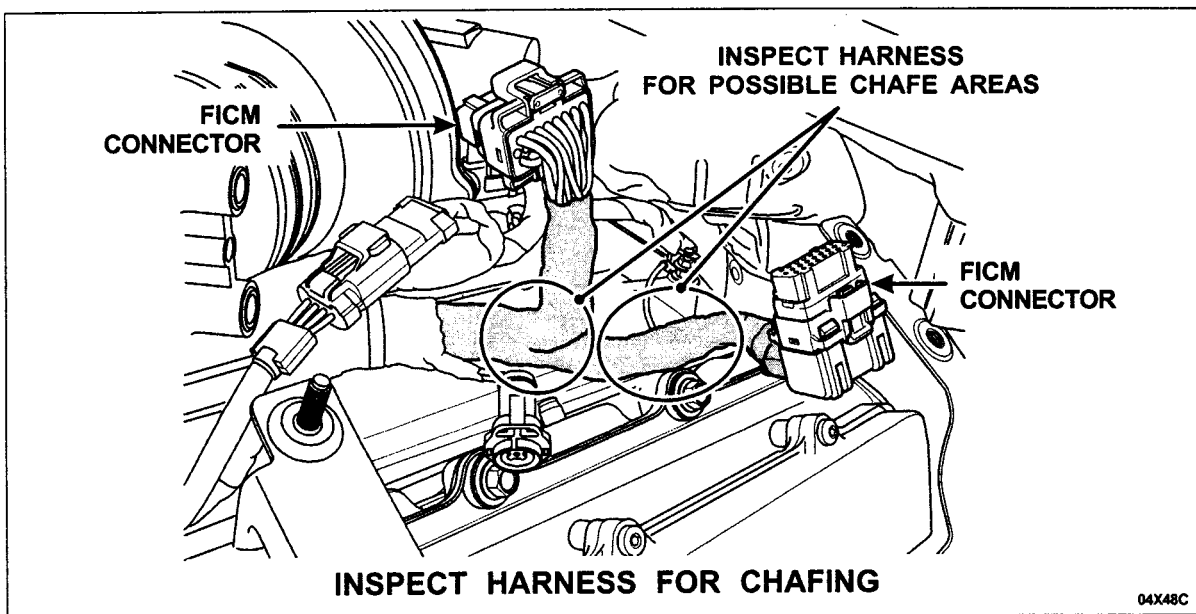

FIGURE 4
8. Disconnect the two (2) rear fuel injector connectors and roll the FICM harness over to view the underside of the two (2) injector harness take-outs leading to the FICM.
9. Inspect the underside of the injector harness in the two (2) areas noted in the illustration. See Figure 4.